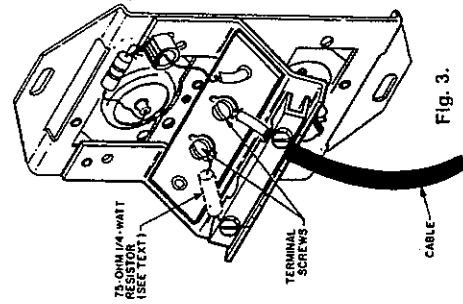

Fig. 3.
2. FOR RG-6 AND RG-6. Strip cable as shown in Figure 1. Insert cable under cable clamp-bridge, wrap center conductor around terminal screw and tighten. Clamp bridge over folded back shielding (Figure 3).
3. FOR FOIL SHIELDED CABLE. Strip cable as shown in Figure 2. Fold drain wires back over jacket. Insert cable under clamping bridge, wrap center conductor around terminal screw and tighten. Clamp bridge over folded back drain wires (Figure 3).